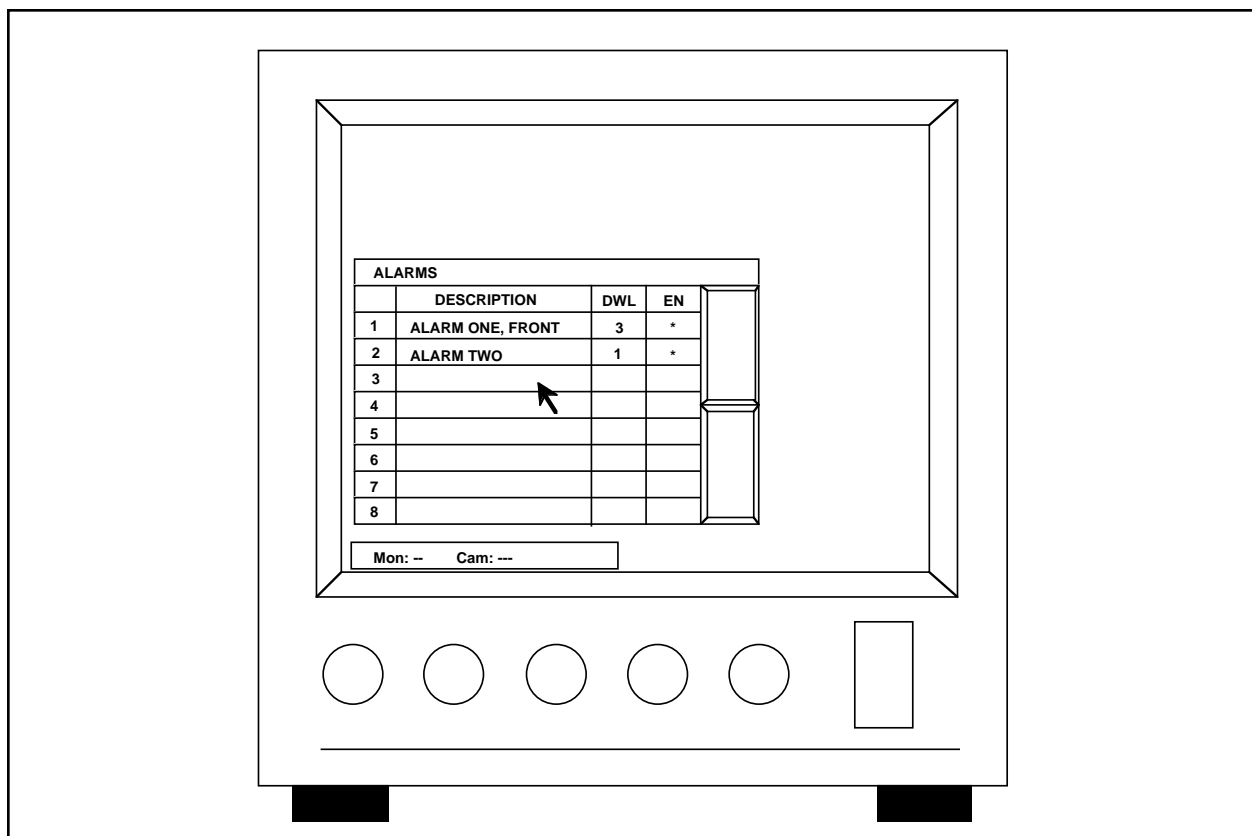

Figure 34. Alarm Description Screen
The CM8500 System is capable of accepting up to 32 alarm inputs. Each alarm can appear on any or all of the 16 available monitors and each monitor can be defined to access a specific camera, if desired. Camera presets also can be programmed, if required. A dwell time of 0-99 seconds can be entered. Entering a dwell time of zero will cause the alarm to be bypassed. To program the alarm assignments, refer to Figures 34 and 35 and the following instructions.
1. From the **AlarmRel** menu, use the joystick to select **Alarm** from the drop-down menu. After a few seconds the Alarm Description Table should appear on the monitor screen. Refer to Figure 34.